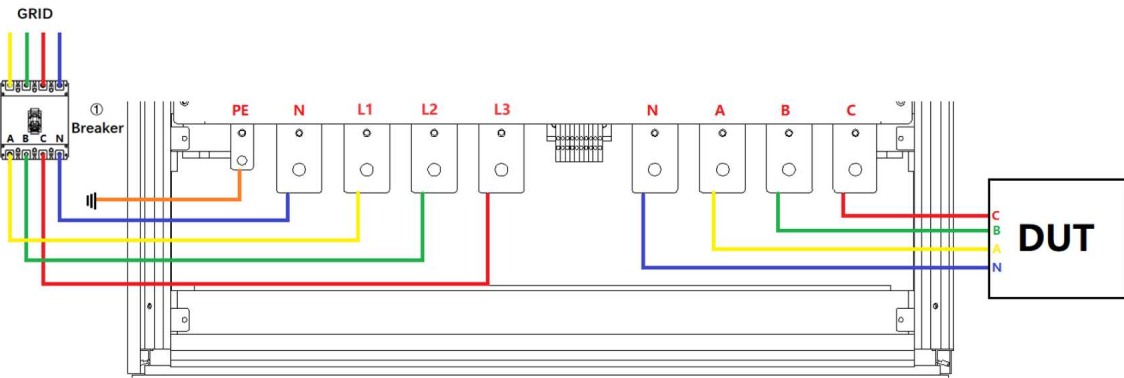

Figure 3-1 Equipment and the circuit breaker
After completing the installation, close the circuit breaker on the distribution side (Figure 3-1①).